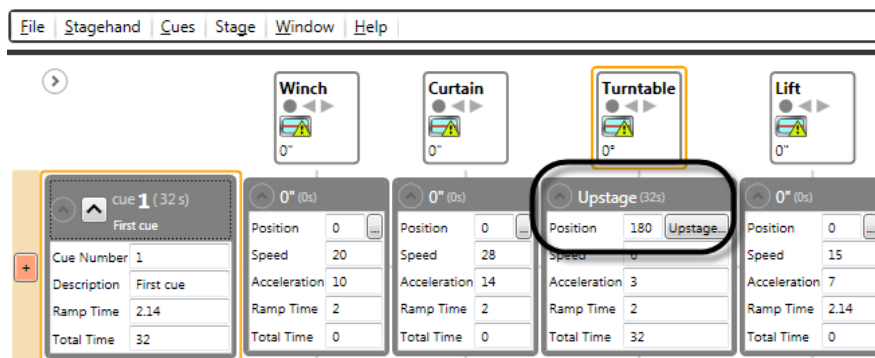

Figure 234
5. Note that the **Cue Grid** has updated to show the selected Spike (Figure 234).